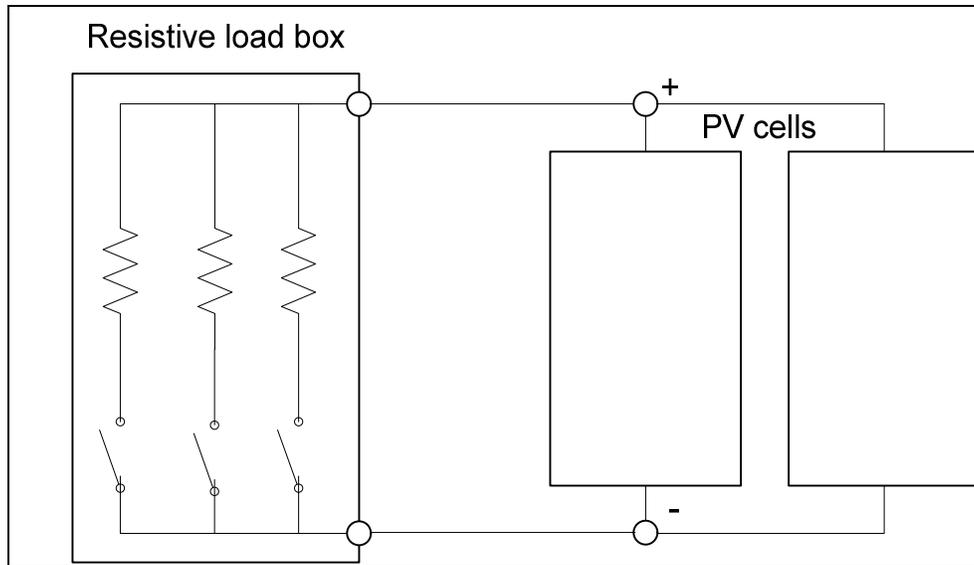

Figure 3: PV circuit to supply resistive loads.
Connect the output of the solar panels to the load box as shown in Figure 3. You will use the switches in the load box to add or subtract loads while performing the experiment.
2. Construct the PV circuit as shown in figure 3. Make sure to measure the appropriate currents and voltages in the circuit needed to achieve the requirements of the experiment. **You will use an oscilloscope to observe the voltage waveforms but DO NOT USE THE GROUND LEAD ON THE SCOPE PROBE. If the ground lead is connected incorrectly the lead could act as a short to ground, dropping a large voltage over a small resistance, generating much heat, possibly causing a fire in the lab.**